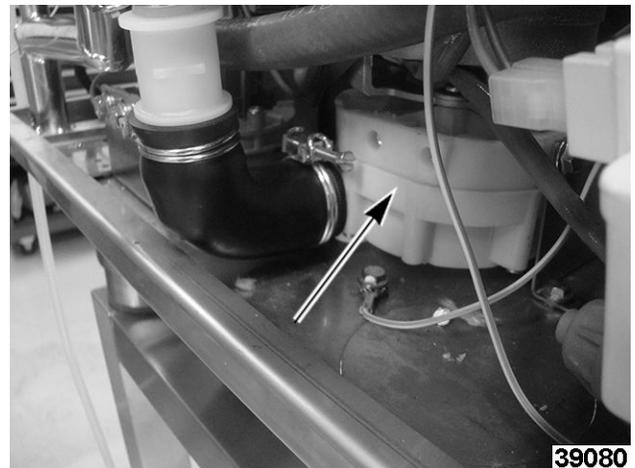

Fig. 58
3. Disconnect intake hose from wash pump (Fig. 58).